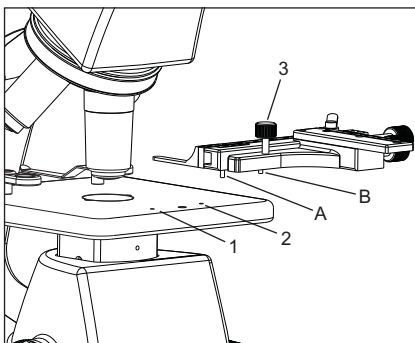

Fig. 4
2. Align the indexing pins (A and B) to the index holes (1 and 2) provided on the stage plate. Align 'A' with '1' and 'B' with '2' as shown in figure 4.
4. Secure with fastening the locking screw (3).